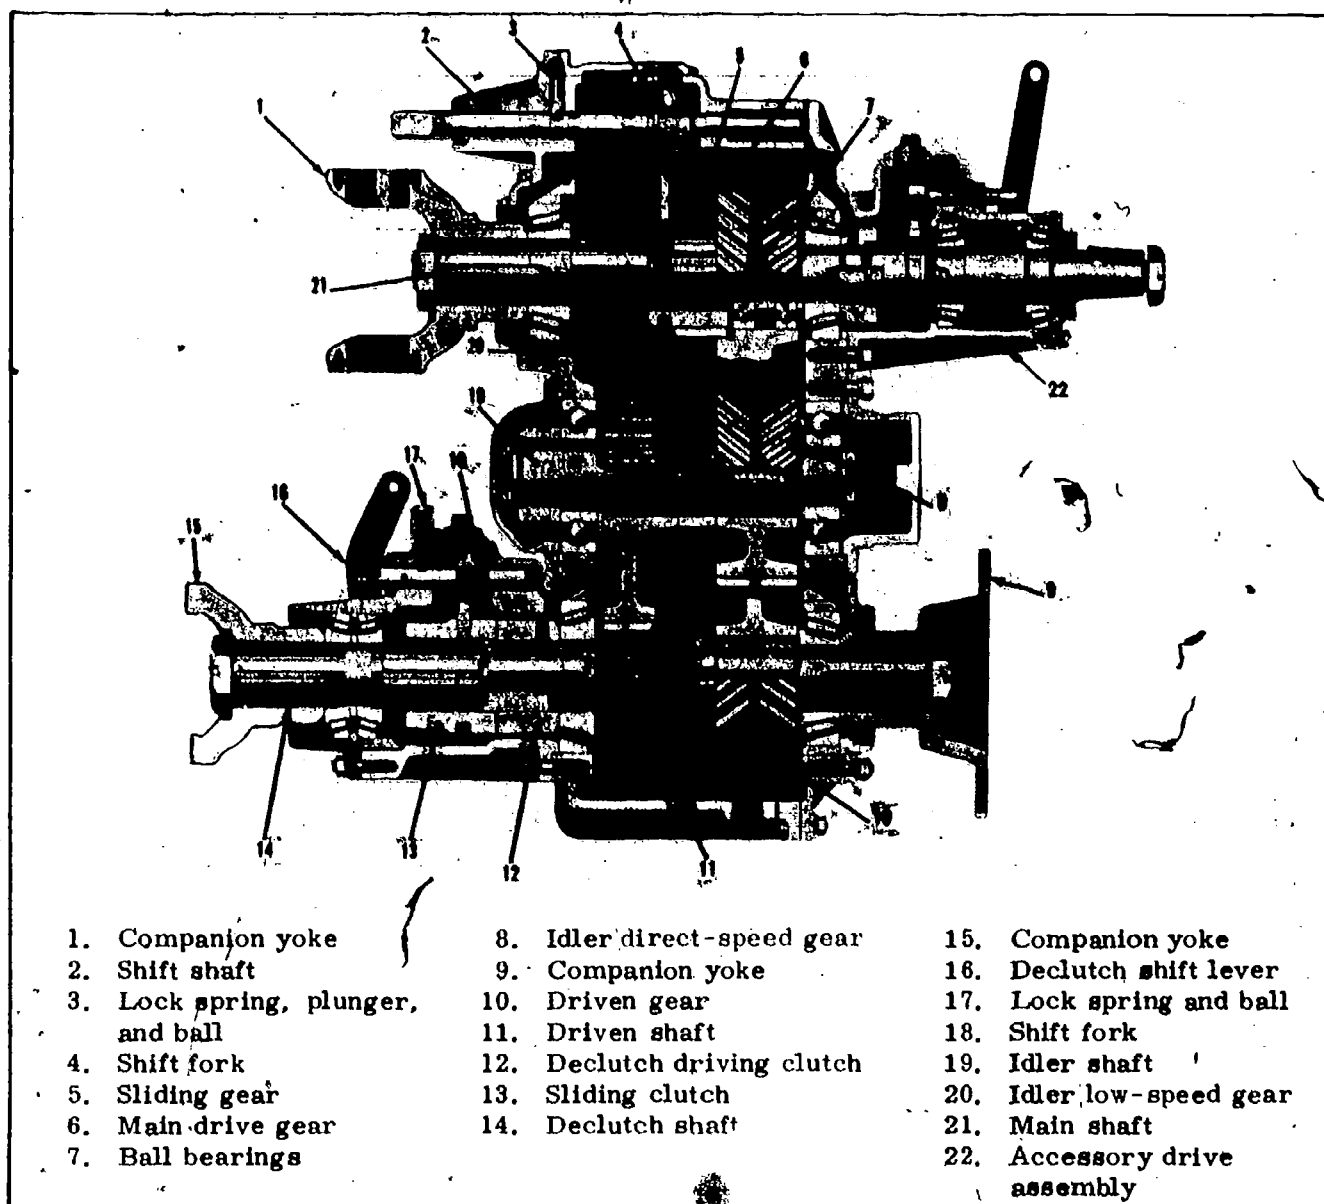

Fig 3-22, Transfer case, sectional view.
(2) Constant-mesh.
- (a) General. Although a transfer case (fig 3-22) is different in nomenclature, the illustration shows that constant-mesh and sliding-spur-gear transmissions and transfer cases are similar in construction and function. In the constant-mesh assemblies, the main shaft gears are mounted on bearings and depend upon another component, the sliding gear (fig 3-22, item 5), to transmit the power from the main shaft to them. The main-shaft gears remain in one place on the shaft; they do not slide along the shaft as the straight spur gears do. They are in constant mesh with the gears on another shaft. The constant-mesh transmissions normally use a straight spur gear for the reverse and first-speed main shaft gear. You will note that the constant-mesh gears (fig 3-22, items 6, 8, and 10) are helical gear; this allows more tooth contact and quieter operation.
- (b) Function. Power enters the case and rotates the main shaft and the sliding gear. If the sliding gear is moved forward, it will engage the low-speed gear (after low-speed gear fig 3-22, item 20), and transmit the power to the driven shaft. The constant-mesh gears will also rotate on their antifriction bearings. If the sliding gear is moved to the rear, the straight spur teeth will mesh with the internal teeth of the main drive gear and transmit the power to the driven shaft.
- (c) Miscellaneous. The transfer case in figure 3-22 has four points for attaching units to be driven. Item 1 receives the power, item 22 is an accessory drive assembly, item 9 is the rear wheel drive, and item 15 is the front wheel drive. Also shown are sliding clutches, sometimes referred to as jaw clutches.